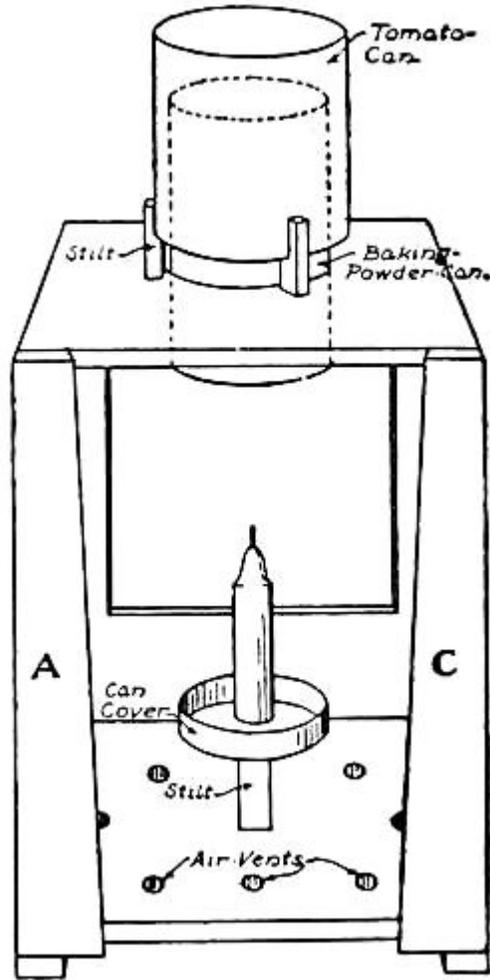

FIG. 176.—A Home-made Dark-room Lantern.
**A Home-made Lantern**, such as is illustrated in Fig. 176, will be found very satisfactory. It is made out of a wooden box about ten by ten by twelve inches. Cut two openings six inches square in two sides of the box and cover one with one sheet and the other with two sheets of orange or red paper, spreading paste over the entire surface of the paper to make it stretch tightly over the openings as it dries. The orange and red wrappers of some makes of printing papers and developing powders can be used for the covering of these openings.
For a chimney, procure a long slender baking-powder can, remove the cover and bottom, and insert it in a hole cut for it in the top of the box. Then an arrangement must be made, as shown in Fig. 176, to prevent light from emitting from the top of the can. This consists of a tomato-can placed over the baking-powder can, bottom side up, with its edge fastened in kerfs cut in the ends of four wooden stilts (see illustration). Drive the stilts firmly into holes bored for them in the top of the box. The edge of the tomato-can should now be about an inch and one-half above the box, and its bottom an inch or more above the baking-powder can.
The lamp is now completed with the exception of the door, which should be made in three pieces, with the edges cut and bevelled as shown in Figs. 176 and 177. Nail strips A and C to the back of the